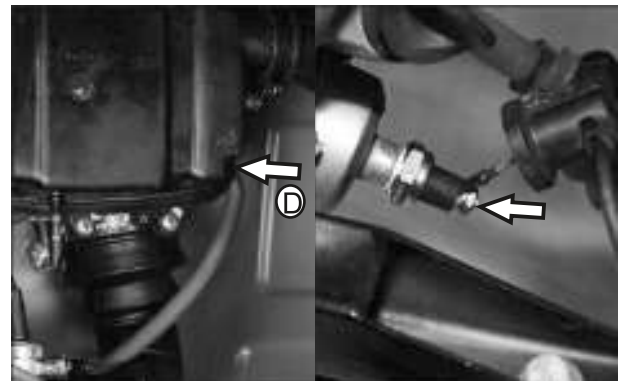

Fig. 3.5
- Dislocate the clip and disconnect breather hose PCV (D) from air cleaner assembly.(Fig. 3.5)
- Dislocate the grommet from Oil pressure switch, loosen and remove the M6 nut along with spring washer from switch to disconnect the wire.(Fig. 3.5.)